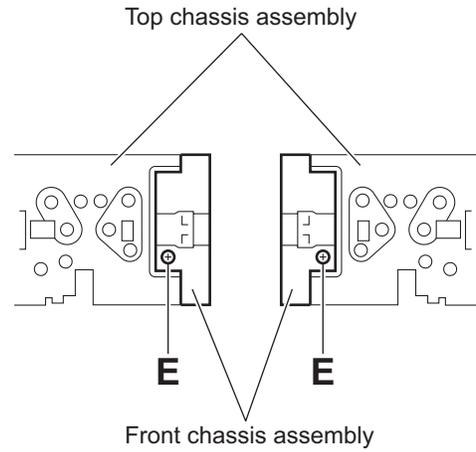

Fig.7
3.1.4 Removing the front chassis assembly (See Fig.7)